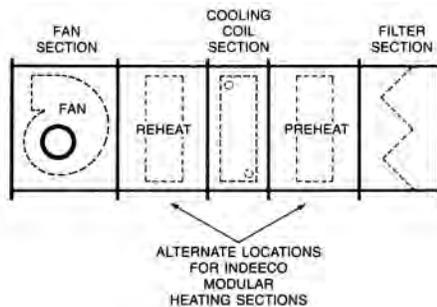

Figure 50.
**Modular Construction** – The heater is designed to match adjacent air handling unit components, such as fans, cooling sections, filter boxes, etc. (Figure 50). Special construction is used so that the heater mounts adjacent to other components; the heater becomes simply one module of the air handling unit assembly. Unheated sections are provided where there is little or no airflow, such as the area blocked by an adjacent cooling coil header. Pressure plates can be provided to insure uniform airflow, when the heater must be installed adjacent to the fan. Buffer sections can be furnished to space the heating coils away from temperature sensitive components or to help assure uniform airflow.